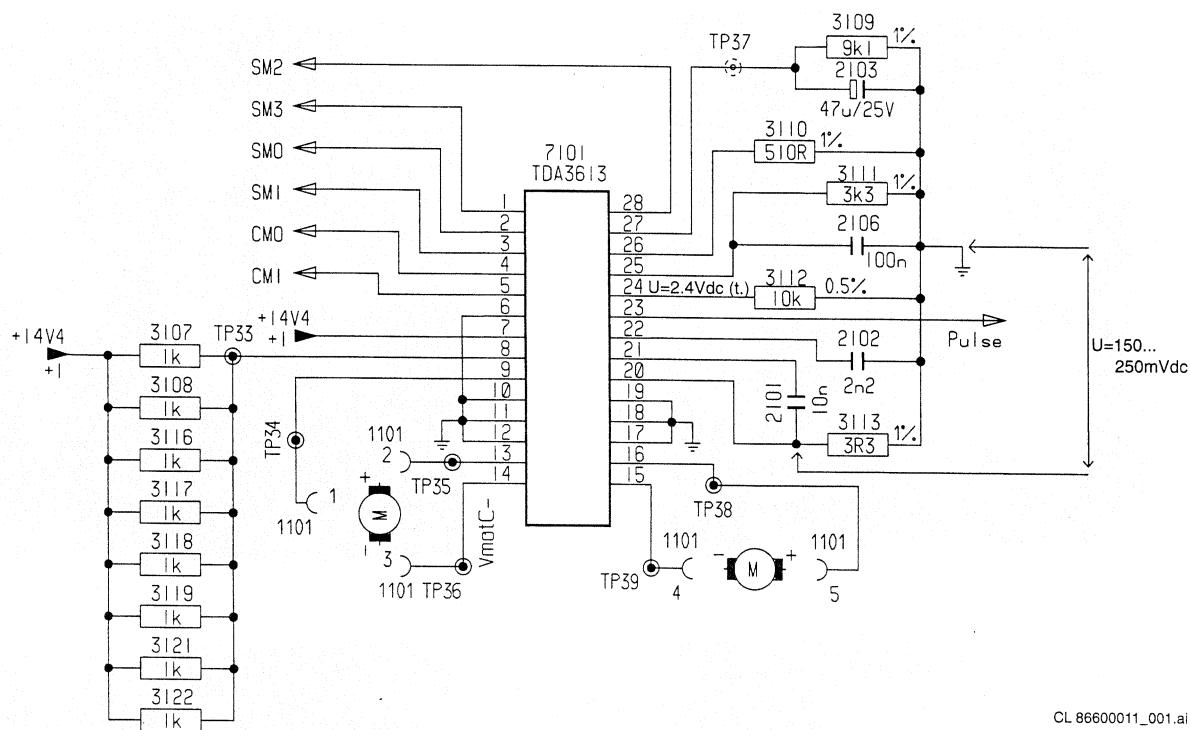
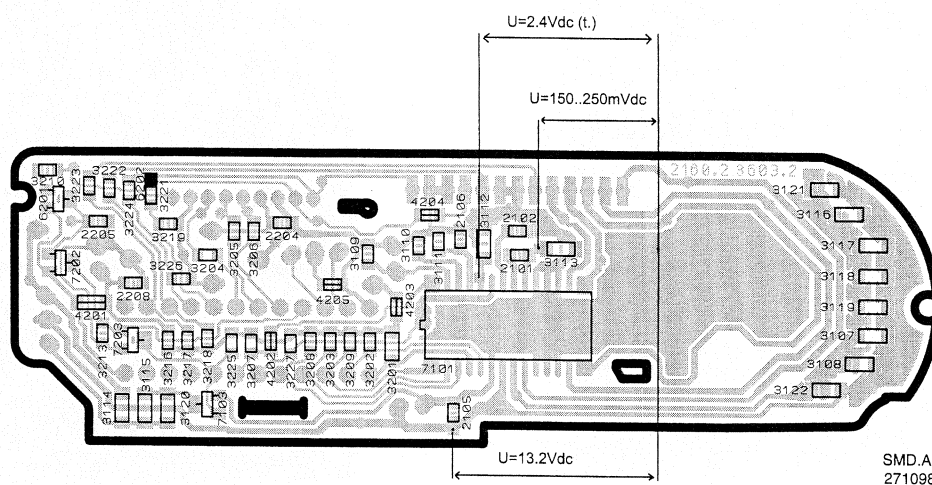

Figure 7
Figure 9
- **Note:** refer to figures 7 – 9.
- First check the voltage at TP3 (collector of pos. 7102). It must be equal to the normal car voltage (nom. 13.2VDC). If this value is not met, check pos. 7102 / 7103 and replace if necessary.
- Measure the voltage between GND and pin 20 of pos. 7101, as indicated in figure 9. It must be 150 ... 250mVDC and hence IR3113 must have a value between approx. 45 .. 76mA.
- Visually check resistors pos. 3109, 3110 and 3112. The value resp. must be: 9k1, 510Ω and 10k.